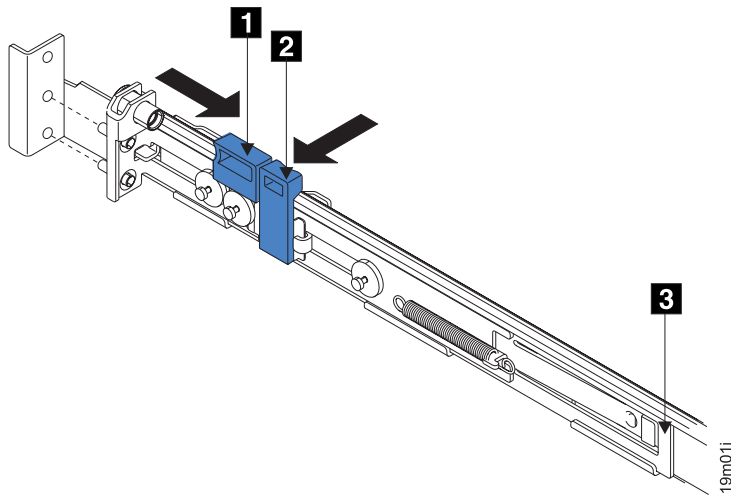

Figure 65. Opening the back latch-lock carrier assembly
5. Push the back rail bracket **1** (Figure 65) toward the front of the rail until it stops. The rail is now at its shortest adjustment.